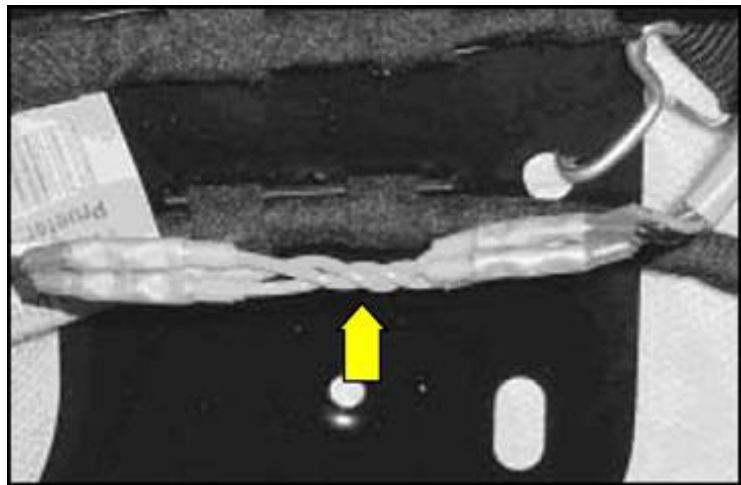

Figure 5. Repaired wires that have been twisted.
- Twist repaired wires (Figure 5).